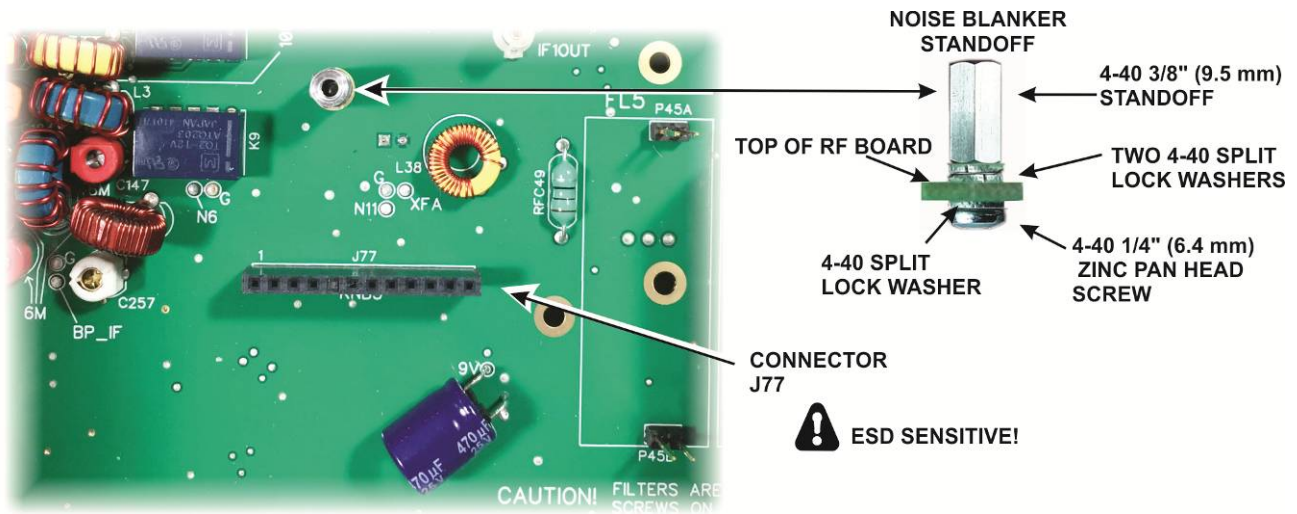

Figure 90. Installing Noise Blanker Standoff.
- Install the standoff for the noise blanker as shown in Figure 90. The location of J77 is to the left of crystal filter position FL5 on the RF board. Be sure to put *two* split lock washers between the standoff and the RF board as shown.